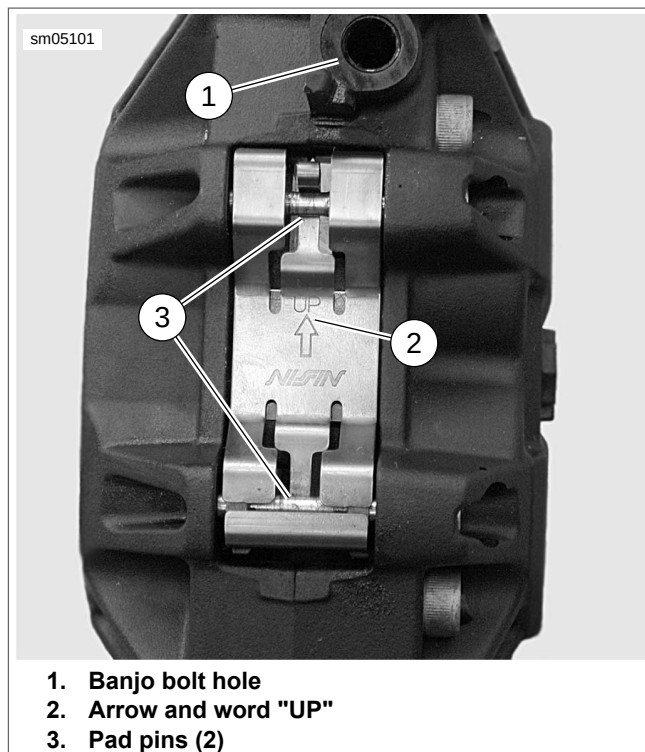

Figure 1-57. Front Caliper Pad Spring Orientation
See Figure 1-57. When replacing front brake pads, make sure pad spring is installed with the arrow and word UP (2) pointing up and captured by both pad pins (3).
- Pad spring orientation must match Figure 1-57.